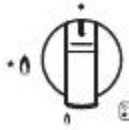

Fig 8
- 1.To light the hotplate push In the appropriate control knob and turn anti-clockwise to the large flame symbol (fig. 8).